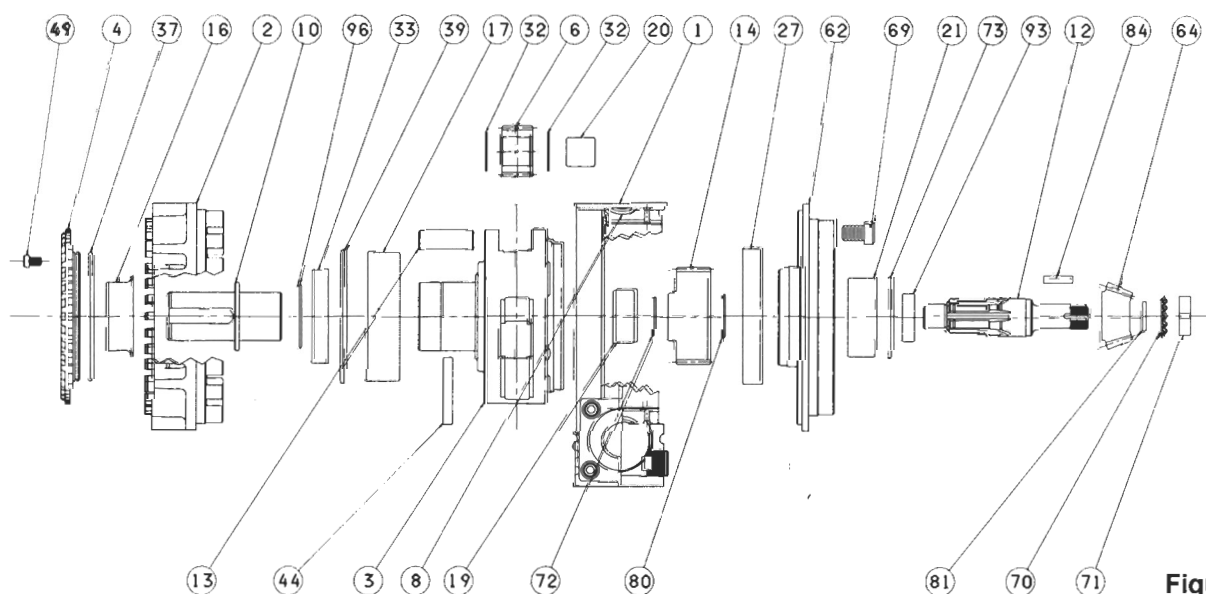
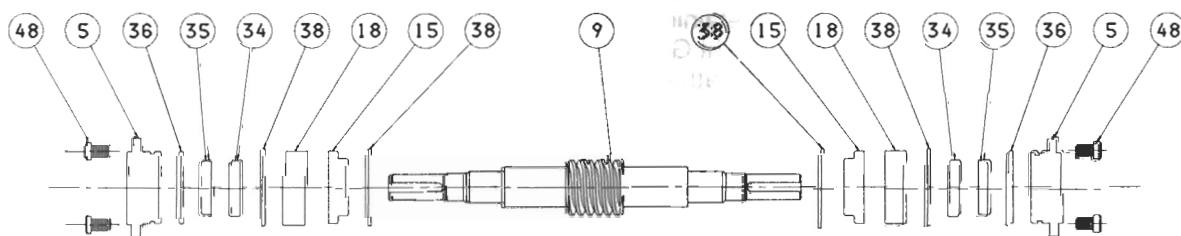

Figure 11
Figure 13
3. Remove screw (48) that retains seal cap (4).
4. Remove seal cap (4) and "O" Ring (37).
5. Remove screws (50, 51, 52), retaining end bell (2).
6. Remove bevel snap ring (39).
7. Remove end bell (2). Use a rubber or soft metal hammer to free end bell. Press out seal (33) from end bell (2). Remove worm gear (8).
8. The carrier (3) can be removed if necessary at this point. See Figure 11. This includes shaft (10), bearing (17), pinion pin (13), needle bearing (20), wear sleeves (16) and thrust race (32).
A. Replacement of Seals (Figure 11, 13)
10. Remove bevel snap ring (73). Press out sun gear shaft (12) and sun gear (14) assembly. See Figure 11.
11. Press out bearing (17) roll pin (44), shaft (10) wear sleeves (16) and "O" ring (96) from carrier (3).
12. Press pinion pin (13) free and remove the pinion and thrust races (6, 32).
13. Press needle bearing (20) from the pinion (6).
14. Press out bearing (19), remove snap ring (72) and sun gear (14). See Figure 11.
15. Remove four cap screws (69) holding end bell (62) to right angle box (61). Press out bearings (21, 27) from end bell (62). Remove snap ring (80).
16. Slide spacer (93) from shaft, remove nut (71), lockwasher (70) and Spacer (81). Remove key (84) and spiral pinion (64) from shaft (12).
17. Remove the two outboard retaining rings (38) from the worm shaft (9). Remove screw (49) that retains seal cap (5). Remove seal cap (5). See Figure 13.
18. Remove seal (34, 35) and "O" ring (36). Carefully press worm shaft (9) from center housing (1).
19. Remove bearing and grease retainer (15, 18) from worm shaft (9) and center housing (1).